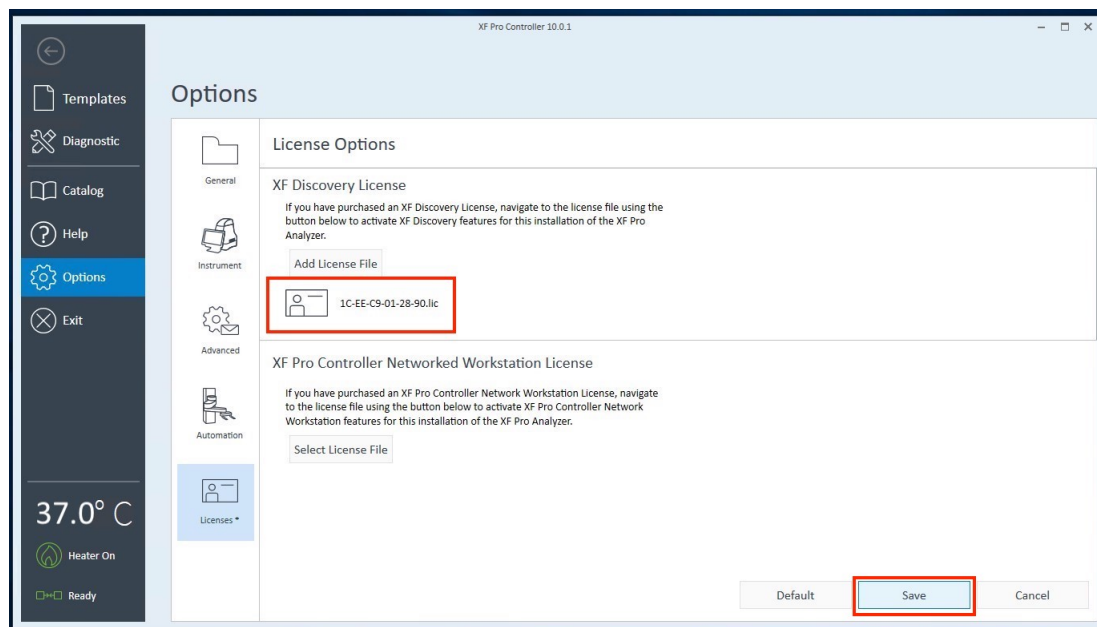

Figure 79. SWLIC-F12
- 7 Now on the Help view in XF Pro Controller software you will see the license file name displayed (**Figure 79**). Click **Save** on the **Licenses > Options** view. XF Pro Controller software will automatically restart.